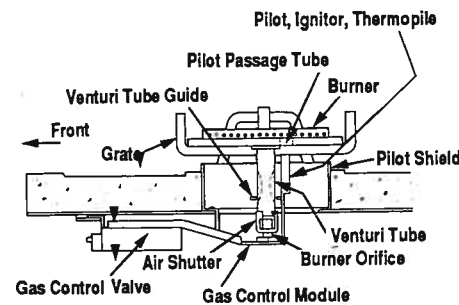

Figure 44
Step 9. Insert the venturi pilot shield into the hearth opening as illustrated in Figure 44. Center the burner grate over the pilot shield and rest grate on refractory hearth. Long side of grate must be parallel with the long side of the hearth opening.
Step 11. Carefully place burner, with venturi tube, into grate. Make certain that the venturi tube engages the burner orifice on the control module (Figure 44). The venturi tube guide will assist in seating the burner into the grate and center the venturi tube over the burner orifice.